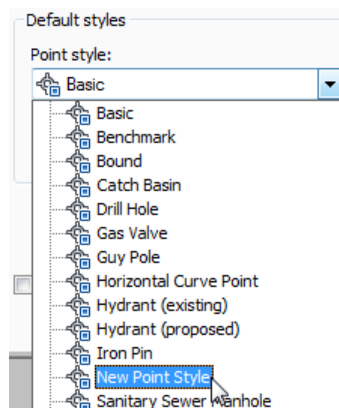

Figure 2-63 Selecting the *New Point Style* option from the *Point style* drop-down list
3. In the **Information** tab, select the **New Point Style** option from the **Point style** drop-down list in the **Default styles** area, as shown in Figure 2-63.